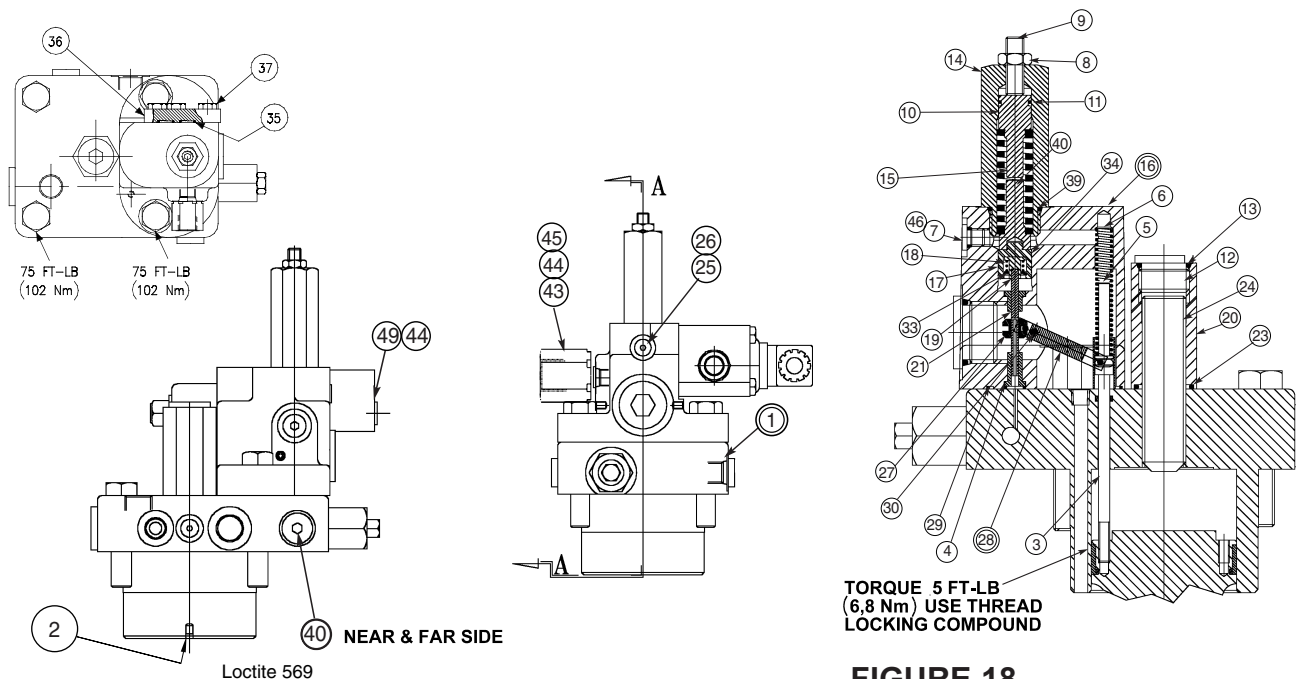

FIGURE 18
1. **See Figure 18.** Remove 3 screws (37) holding block (36) to body (16).
2. Remove 2 screws holding body (16) to cap assembly (1).
3. Remove all parts from body (16) except pin (30) and arm assembly (28). It is not necessary to remove these parts unless broken or worn. Examine parts for wear or damage.
4. Remove screw (3). Examine head for excessive wear, and body for smooth sealing surface with O-ring.
2. Install spool (4) into bore as shown. Install spring (8) over end of spool.
3. Install plug with stop (14) and O-ring (13) into plug (3).
4. Install O-rings (7) and (16) on plug (3). Install plugs (3) and (9) into body (1).
5. Install orifices (20) and (21) and plugs (10). Torque plugs. Install O-ring (5) in cap.
8. **See Figure 18.** Apply thread locking compound on threads of screw (3), lubricate the shank, thread through the cap into the control piston, and torque to 5 lb. ft. (6.78 N m).
9. Install minimum stop screw (24) and turn clockwise to stroke pump to full volume. Measure height from control cap to top of screw (3). With control piston at full stroke, dimension must be .67 +/- .03 in. (16.9 +/- 0.76 mm). Back out minimum stop screw (24) till there is no contact with control piston.
10. Press dowel (30) into body (16), through the link (28), to 1/4" (6.35 mm) below surface, apply hydraulic sealant to threads of screws (46) and install over dowel (30).
11. Press spool (21) into retainer (19). Caution: do not use excessive force. Place spool/retainer assembly into spool (17) with spring (18) and washer (34). Secure with retaining ring (33).
12. While sleeve (27) is engaged into dowel on link (28), slide above spool assembly into bore of body (16), and through sleeve (27). Spool (21) must move freely and easily at all positions of the link (28).
13. Install proportional valve (41) in block. Torque to 20 ft. lbs. (27 N m).
14. Install coil (42) on proportional valve. Torque to 20-25 in. lbs. (2.2-2.8 N m) max.
15. Assemble all other components into body (16) per above drawing. Torque the plug (12).
16. While spring retainer is engaging clevis pin (5) under dowel of link (28), slide the other opening of spring retainer over the top of the screw (3). Attach body assembly (16) to cap (1) with two screws, and torque to 75 lb. ft. (102 N m).
PARTS LIST FOR FIGURE 18
1. See Figure 18. Remove 3 screws (37) holding block (36) to body (16).
8. See Figure 18. Apply thread locking compound on threads of screw (3), lubricate the shank, thread through the cap into the control piston, and torque to 5 lb. ft. (6.78 N m).
9. Install minimum stop screw (24) and turn clockwise to stroke pump to full volume. Measure height from control cap to top of screw (3). With control piston at full stroke, dimension must be .67 +/- .03 in. (16,9 +/- 0.76 mm). Back out minimum stop screw (24) till there is no contact with control piston.
Ref. Figure 18